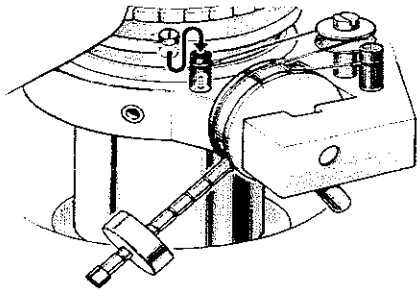

Fig. 22
(3) When the anti-skating mechanism is not in use (when readjusting the stylus pressure, etc.), place the mini cap on the lifter base pin as shown in Fig. 22.